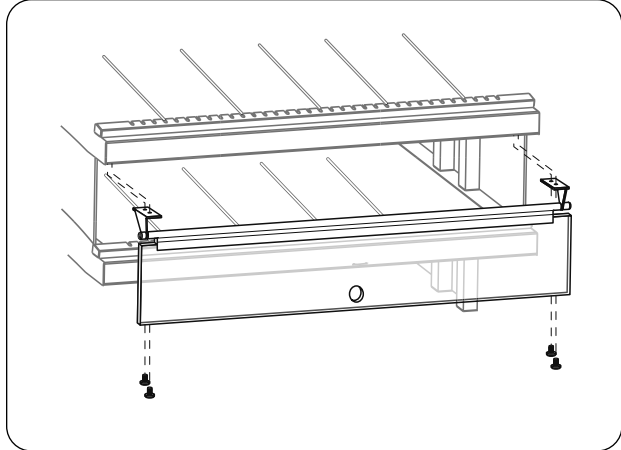

Figure 11. Flip-Up Doors
3. Install one end bracket as shown in Figure 11 using the two screws removed in step 2.